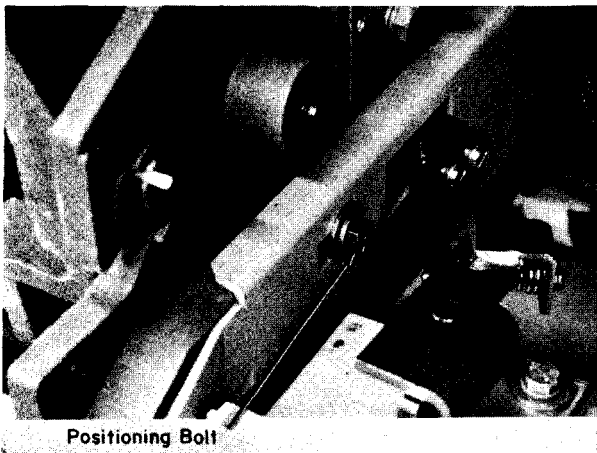

Fig. 33. Closeup of contactor, showing positioning bolt.
3. Remove the contactor positioning bolt (Fig. 33).